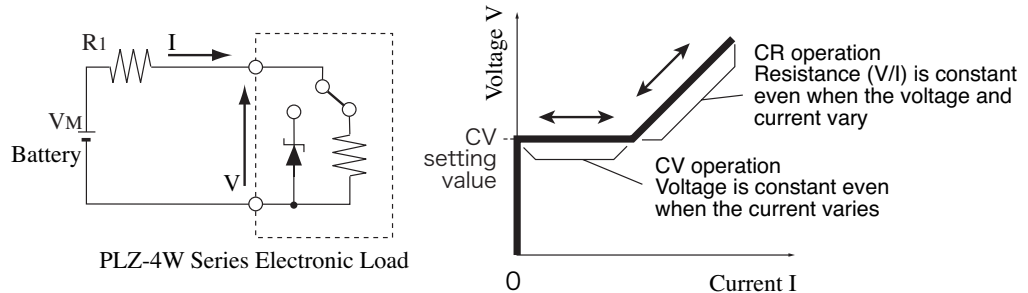

Fig. A-14 Equivalent circuit of the CR+CV mode and operation
When the PLZ-4W is used in CR+CV mode, the PLZ-4W operates as a constant resistance load and a constant voltage load (shunt regulator) as shown in Fig. A-14. When operating as a constant resistance load and the voltage ( $V_M$ ) of the constant-voltage power supply is varied, the PLZ-4W sinks current to meet  $I=V/R$  according to the specified resistance  $R$ . When operating as a constant voltage load and  $V_M$  is greater than  $V$ , the input voltage  $V$  is kept constant even when the input current  $I$  varies. Current does not flow when  $V_M$  is less than or equal to  $V$ .
The switching between the modes is automatic. In the fig. A-14,  $R_1$  is the internal resistance of the constant-voltage power supply. In constant-voltage (CV) mode, the PLZ-4W may operate unstably if  $R_1$  is low.
We will consider the case when checking the discharge characteristics of a battery of Fig. A-14.